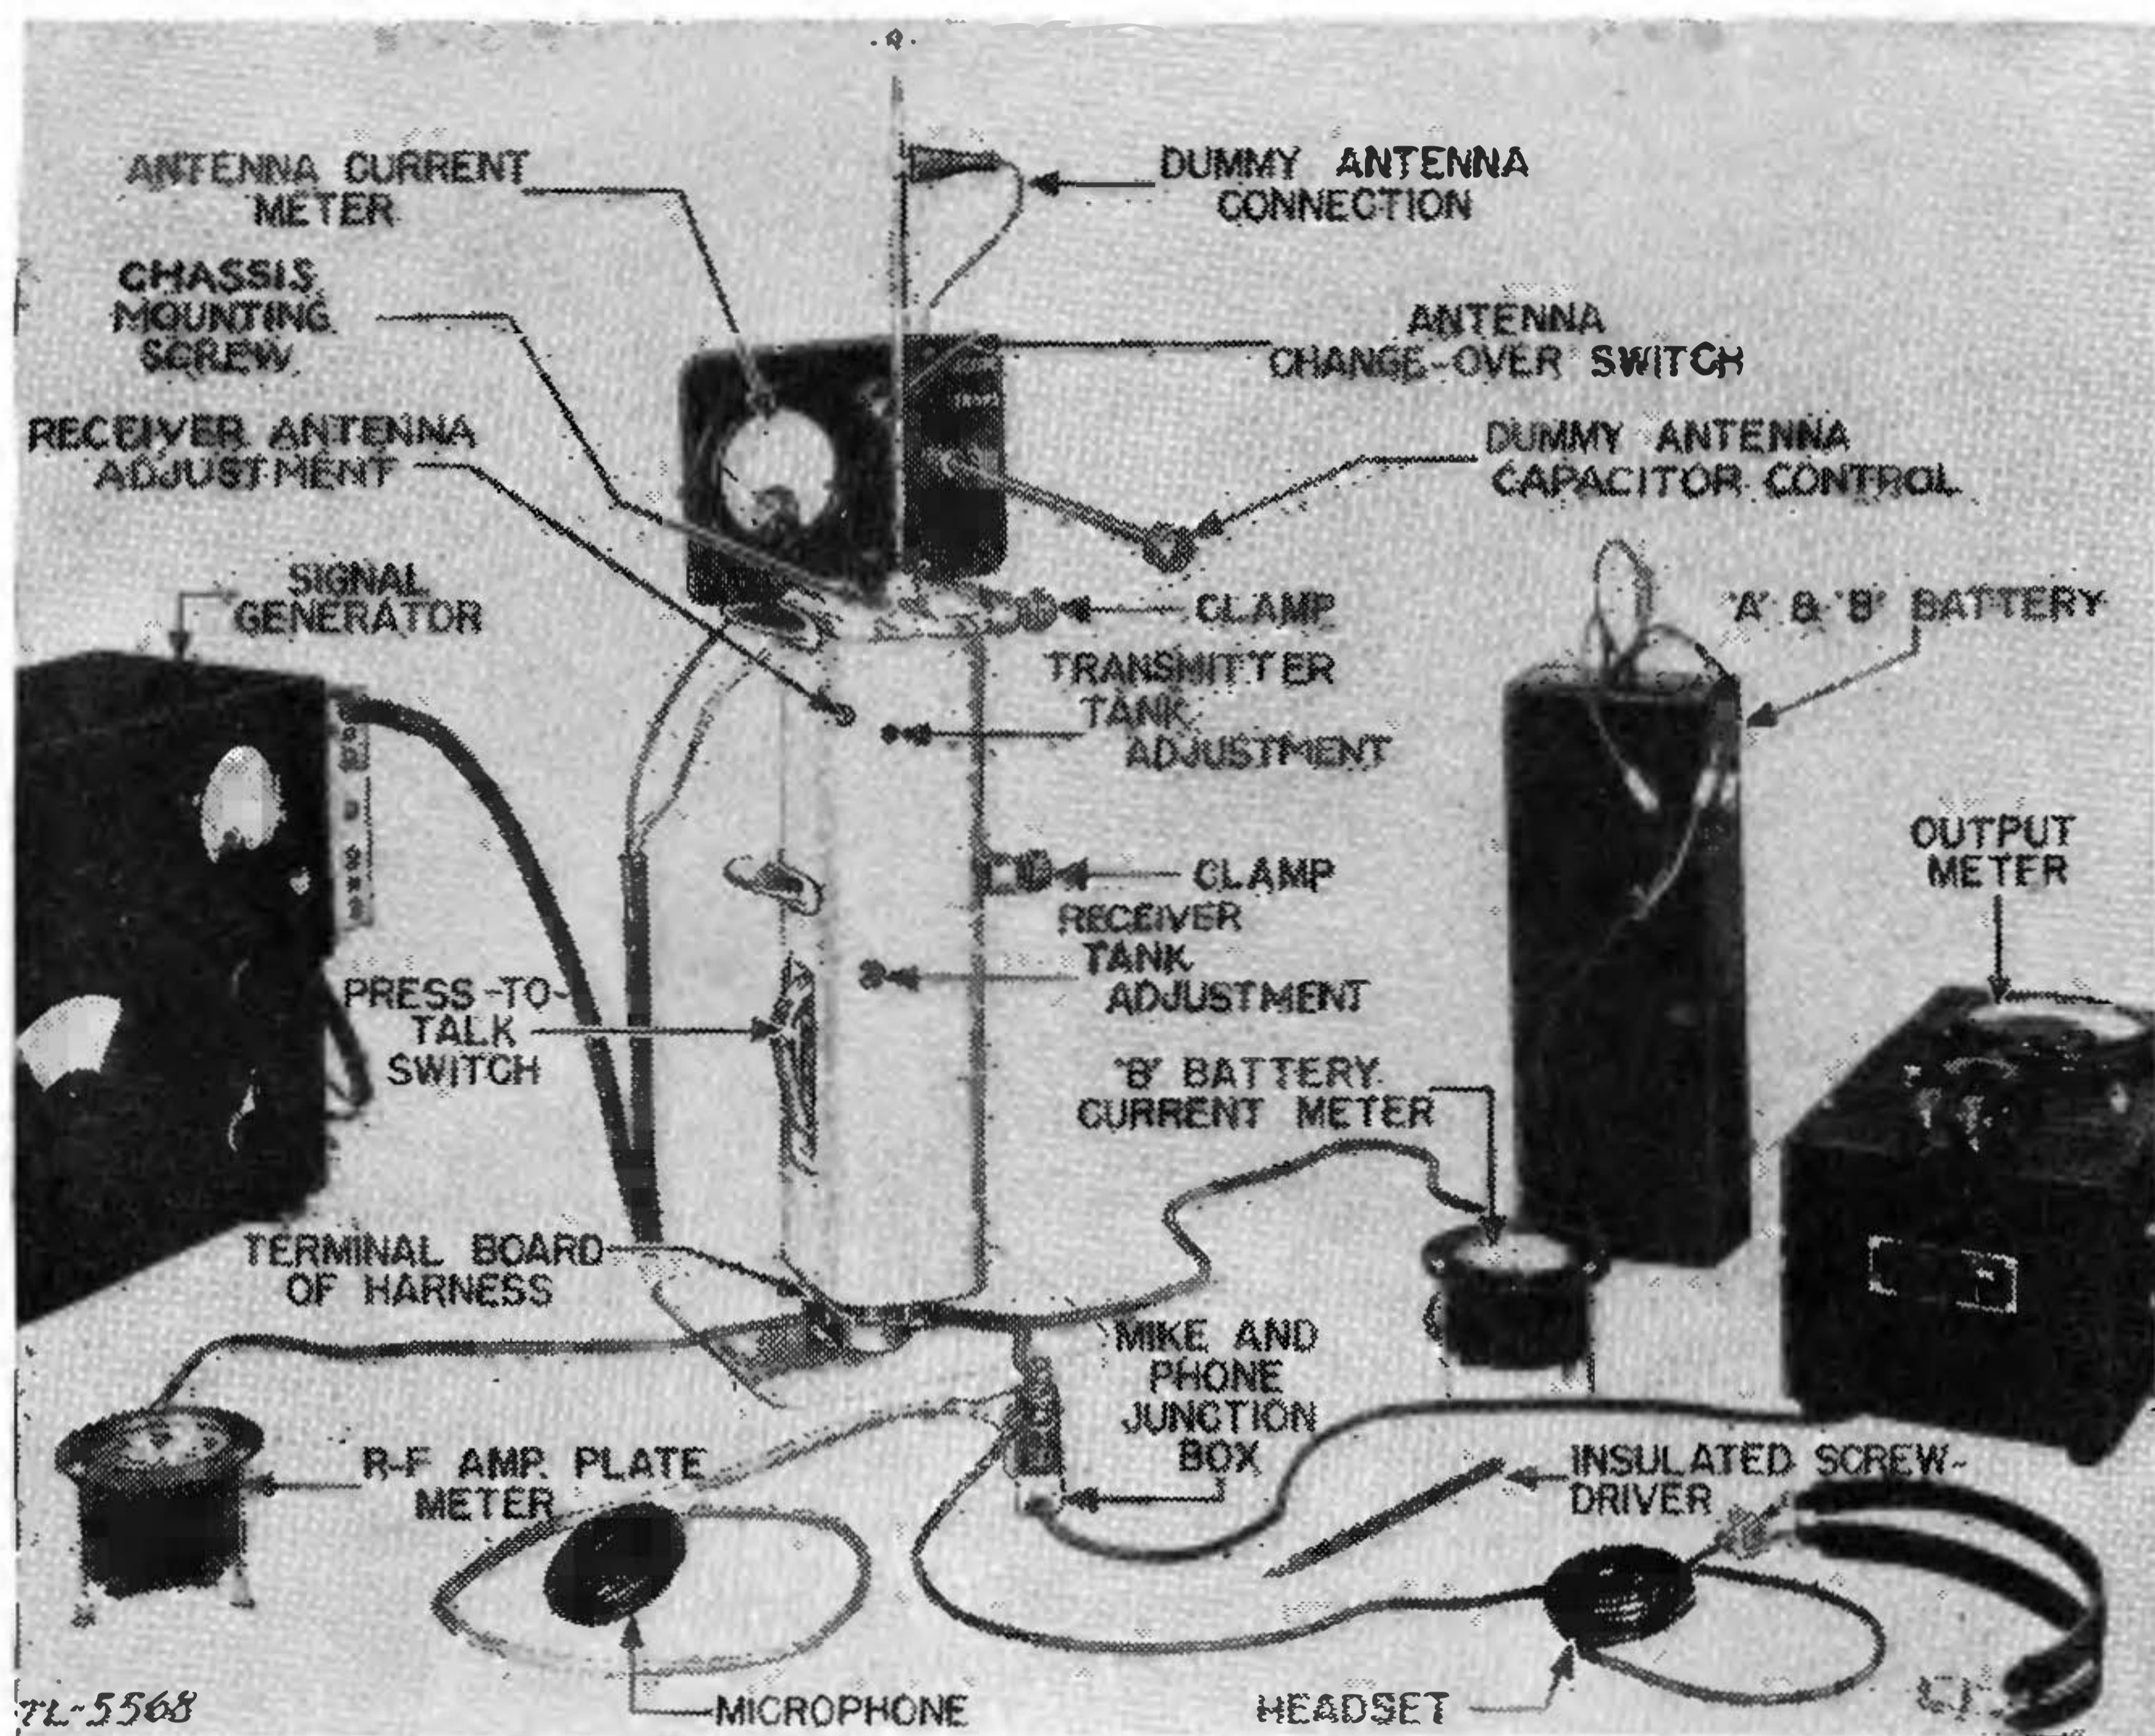

FIGURE 14.— Test equipment IE-15-A—set up.
**65. Use of test case CS-81-(\*).**—Since the tuning adjustment points of the radio set are inaccessible because of their locations on the chassis being covered by the case or housing, a special housing is required to contain the chassis while making these adjustments. (See fig. 14.) Test case CS-81-(\*), used for this purpose, is similar to a chassis housing except for the holes that have been provided to permit access to the chassis adjustments. This permits tuning the set under conditions identical to those of normal operation. The tuning adjustments should not be made on the set without the test case housing around the chassis, because the set would become detuned when inserted into its regular housing. This detuning would result from the additional capacitance introduced into the circuit by the housing.